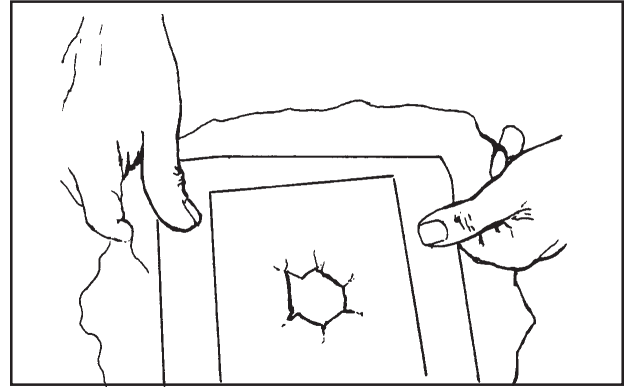

Figure 5
1. Push the rubber collar opening around the connector socket (see figure 5.)